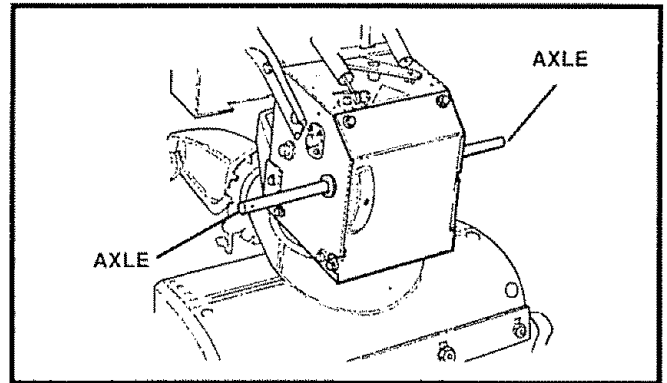

FIG. 15
- Remove both wheels, grease (any automotive type grease) both axles (See Fig. 15) and replace wheels. Do this at least once a year and/or prior to storage